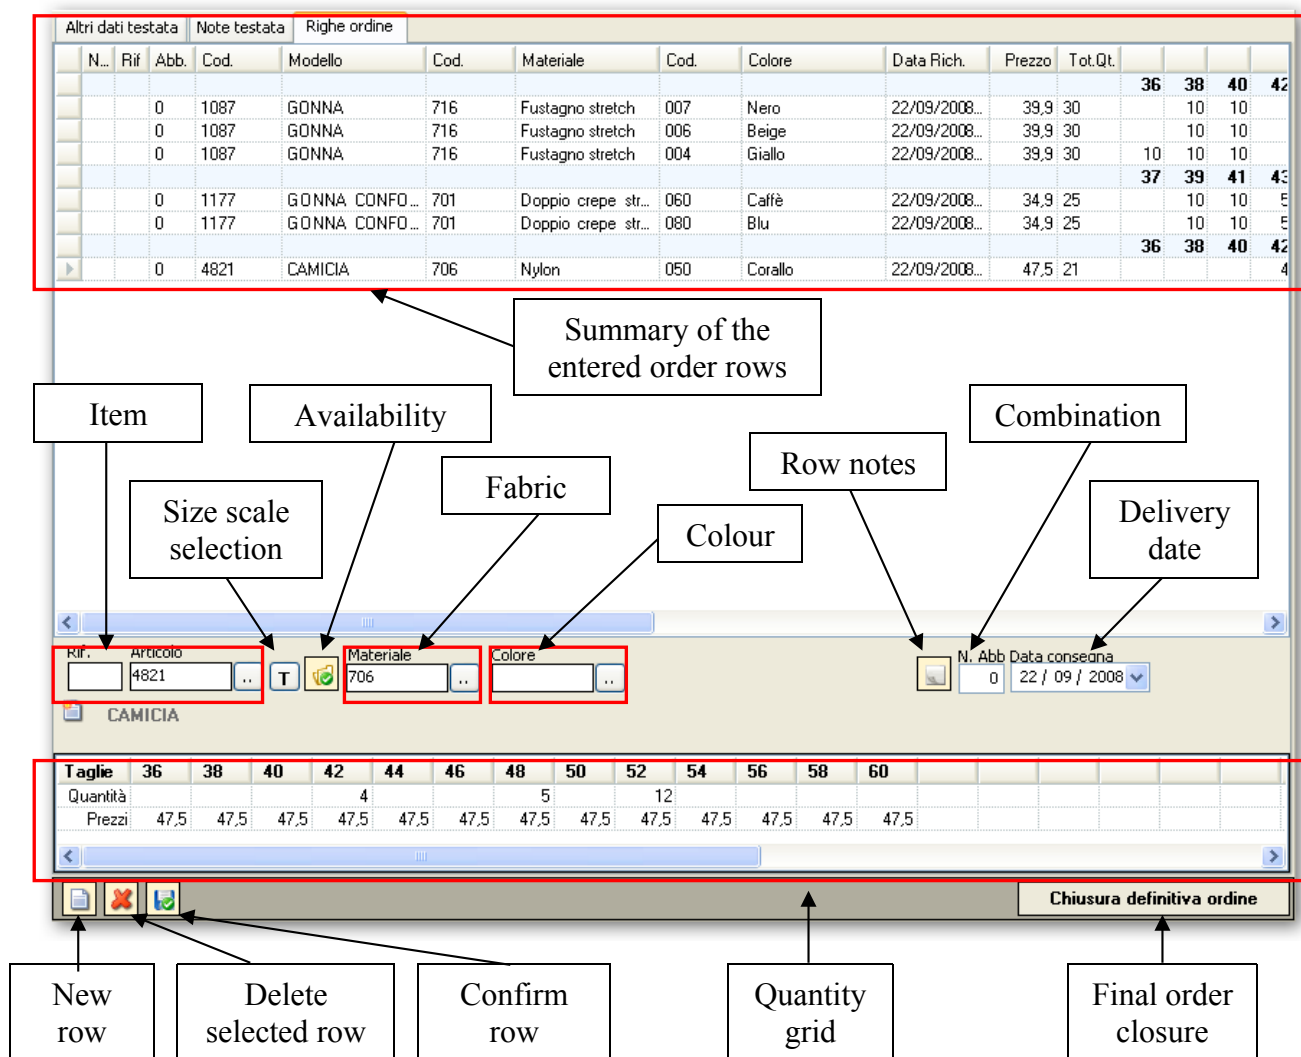

Fig. 13 - Order rows
4. **Entering the "Order rows":** in order to enter the order rows, it is necessary to have previously set up all the mandatory fields in the "Order name" and "Other name data". Then click on the "Order rows" tab. In order to create a new order row, click on the relative bottom-left button (Fig. 13).